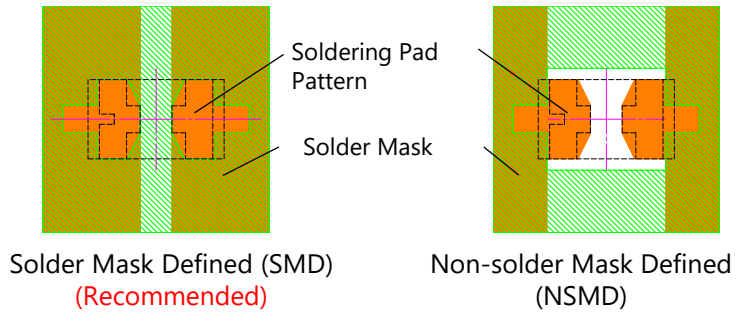

Figure 8. Copper Layer Designs to Create the Soldering Pad Pattern
- There are two types of copper layer designs to create the soldering pad pattern: Non-Solder Mask Defined (NSMD) and Solder Mask Defined (SMD). For this LED, Nichia recommends SMD to protect the PCB from the light that hits the PCB. See Figure 8.